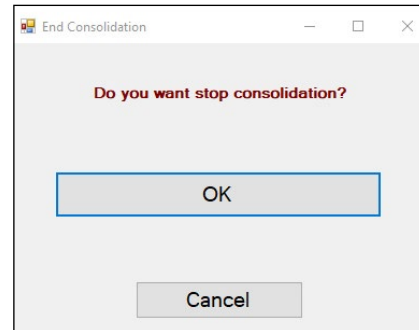

Figure 12: Stop Consolidation Dialog Box
8. For dead-weight units, enter the applied load in pounds before continuing. Repeat this step until all stages have been completed. Once completed, click **Stop Consol** and the software will stop collecting consolidation data. When asked “Do you want to stop consolidation?” (Figure 12) click **OK**. Calculations are then performed and will appear in the bottom half of the **Consolidation** tab. Click **Next** to continue to the shear phase.